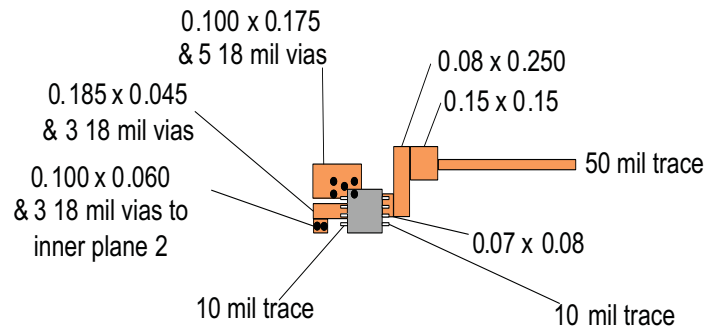

Figure 45. DGK Package PCB Layout Example
While it is recommended that the DGN package PAD be soldered to circuit board copper fill and vias for low thermal impedance, there may be cases where this is not desired. For example, use of routing area under the IC. Some devices are available in packages without the Power Pad (DGK) specifically for this purpose. The θ_{JA} for the DGN package with the pad not soldered and no extra copper, is approximately 141°C/W for 0.5 - A and 1- A rated parts, and 139°C/W for the 1.5 - A and 2- A rated parts. The θ_{JA} for the DGK mounted per Figure 45 is 110.3°C/W. These values may be used in Equation 1 to determine the maximum junction temperature.
- Changed 在表 1 中，TPS2000C (MSOP-8) 的状态从：预览改为：激活 1 - Changed From: PXF1 To: PXFI and From: PSG1 To: PXGI in the DEVICE INFORMATION table MOSP-8 (DGK) column 2 - Changed the θ_{JA} Custom 2 A Rated DGK value from N/A to 110.3 2 - Added Figure 45 - DGK Package PCB Layout Example 17